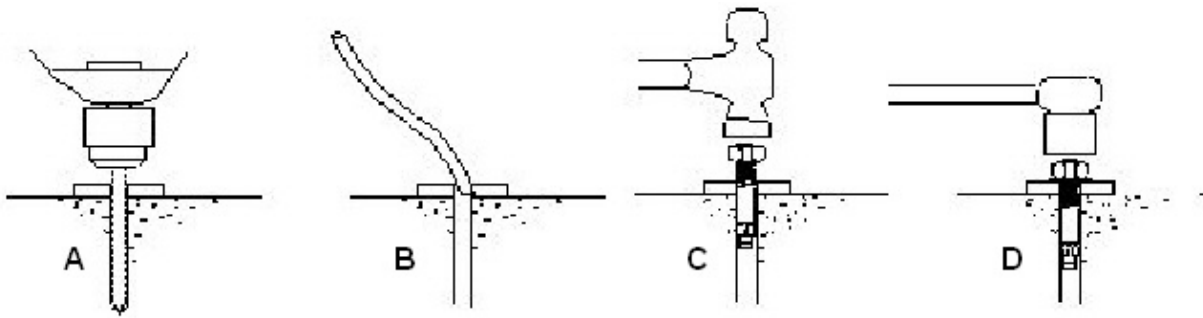

Figure 2-8. Anchor Hole Drilling and Seating
a) Using a 3/4" diameter concrete drill, drill the anchor holes in the concrete for the main side column, installing anchors as you go. Use a concrete hammer drill with a carbide tip solid drill bit the same diameter as the anchor, 3/4". (.775 to .787 inches diameter). Do not use excessively worn bits or bits which have been incorrectly sharpened. Refer to figure 2-8 Detail A. Use the following guide while drilling the anchor holes in the concrete:
- 6) For better holding power blow dust from the hole (Refer to figure 2-8 Detail B).
3. Place a flat washer and hex nut over threaded end of anchor, leaving approximately 1/2 inch of thread exposed and carefully tap anchor (Refer to figure 2-8 Detail C). Do not damage threads.
4. Tap anchor into the concrete until nut and flat washer are against base plate. Do not use an impact wrench to tighten (Refer to figure 2-8 Detail D).